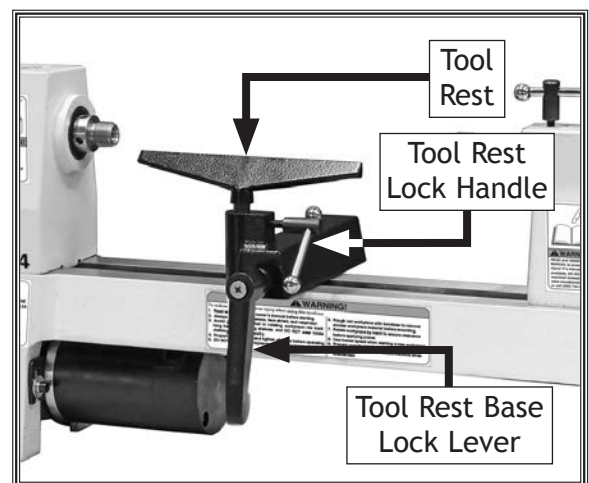

Figure 10. Tool rest installed on tool rest base.
3. Insert tool rest into tool rest base and tighten tool rest lock handle (see **Figure 10**).